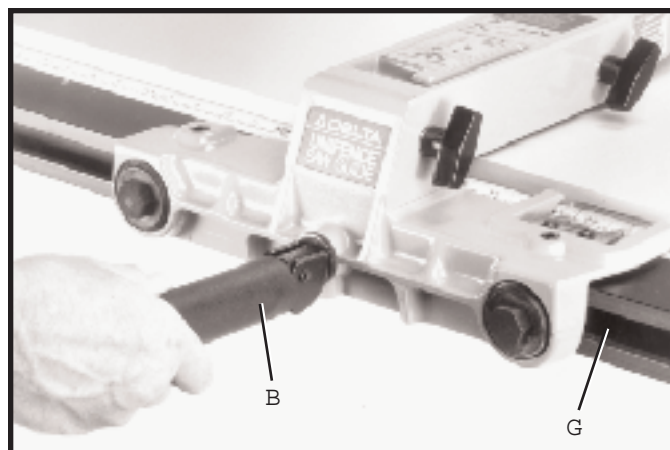

Fig. 45
3. Turn handle (B) Fig. 45, to the right indent position as shown. This will prevent fence clamp from sliding out of the channel (G).